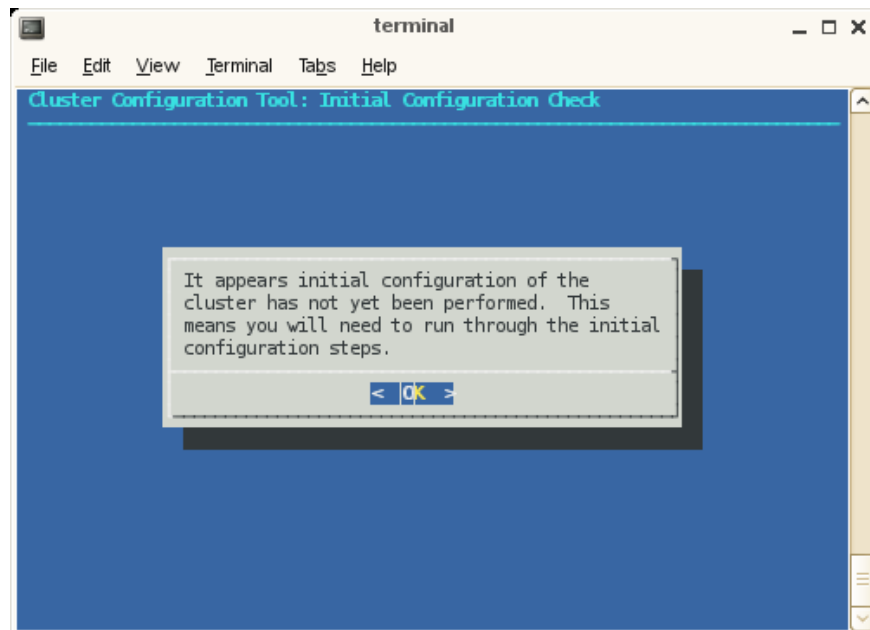

Figure 2-16 Cluster Configuration Tool: Initial Configuration Check Screen
2. The **Cluster Configuration Tool: Initial Configuration Check** screen appears, as shown in Figure 2-16 on page 57. This tool provides instructions on the steps you need to take to configure your cluster. Click **OK** to continue.